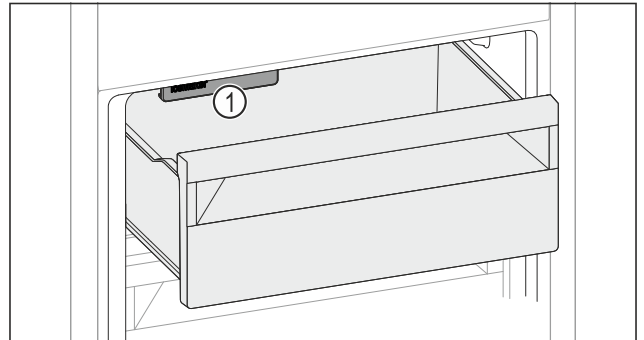

Fig. 115
- Watch out for the IceMaker Fig. 115 (1).